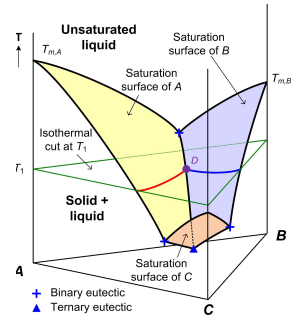
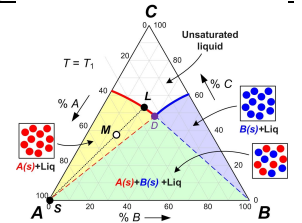

Figure 2: Three-component SLE Diagram
Figure 3: Isothermal Cut at T for three-component SLE Diagram
For a three-component system at constant pressure, the SLE phase diagram resembles a triangular prism, shown in Figure 2. The 3D diagram is constructed by combining the T-x diagrams of the three binary systems (A-B, A-C, and B-C) and filling the interior with the solubility surfaces for each of the three components. The three surfaces meet at the ternary eutectic point, at which all three components are saturated. Since identifying various solid-liquid regions below the saturation surfaces is difficult, it is more convenient to consider isothermal cuts, indicated by the blue triangle in Figure 2. A series of such cuts can be taken at different temperatures for the three-dimensional figure.
The isothermal cut at temperature T_1 is shown in Figure 3. Since this temperature is above the melting point of component C, there is no region associated with solid C. Instead a region of unsaturated liquid is present at the C-rich portion of the diagram. Solids of pure A exist in equilibrium with a liquid phase in the yellow wedge-shaped region. A mixture at point M in this region will phase-split according to tie-line SL into a liquid phase and pure solid A. If the composition of a mixture lies within the lavender wedge-shaped region, pure B solid will be obtained at this temperature. Inside the green triangle, both solids A and B will crystallize out of the solution. The solid mixture is in equilibrium with a liquid phase composition at the double saturation point (D). In the prism in Figure 2, point D is part of the trough connecting the AB binary eutectic and ternary eutectic. The location of the double saturation point – and hence the region boundaries in the isothermal cut – change with temperature.